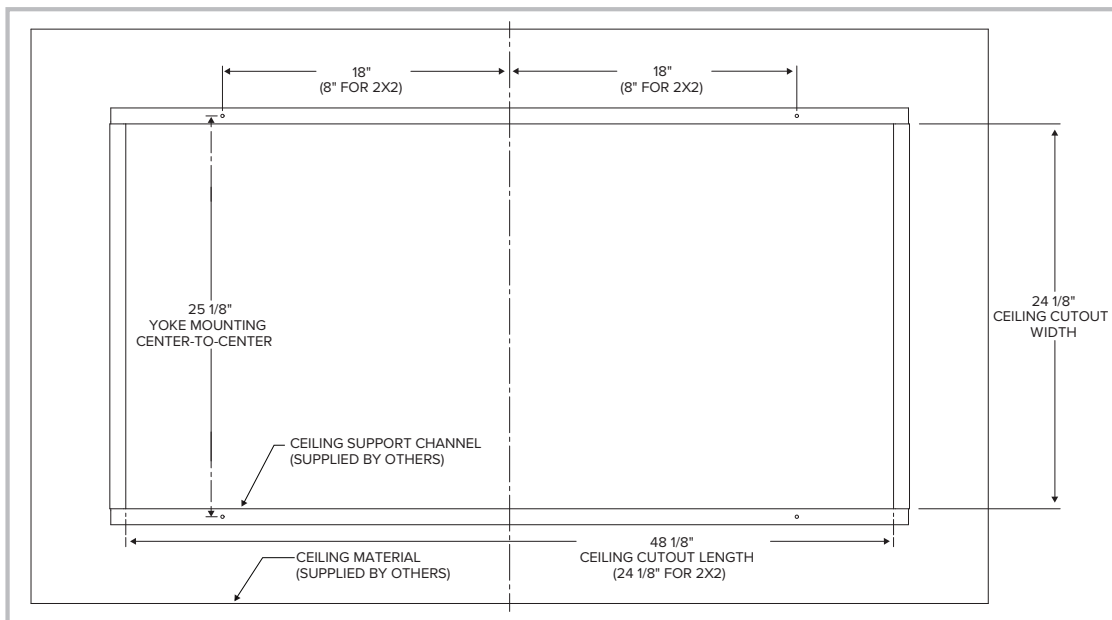

Figure 2: Recommended Ceiling Cutout and Support Channel Preparation
3. Prepare mounting holes in the framing channel according to *Figure 2*.